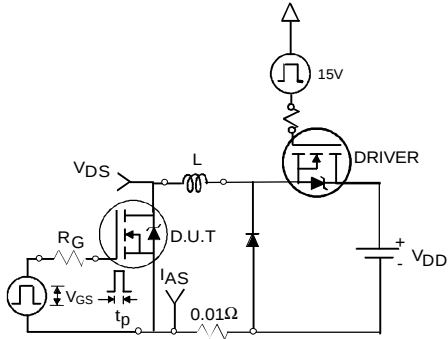

Fig 12a. Unclamped Inductive Test Circuit
- ② Starting $T_J = 25^\circ\text{C}$, $L = 0.38mH$, $R_G = 25\Omega$, $I_{AS} = 29A$, (See Figure 12a)
- ③ $I_{SD} \leq 29A$, $di/dt \leq 420A/\mu s$, $V_{DD} \leq V_{(BR)DSS}$, $T_J \leq 150^\circ\text{C}$
- ④ Pulse width $\leq 300\mu s$; duty cycle $\leq 2\%$.
- ⑤ $C_{oss \text{ eff.}}$ is a fixed capacitance that gives the same charging time as C_{oss} while V_{DS} is rising from 0 to 80% V_{DS}
- ⑥ Calculated continuous current based on maximum allowable junction temperature. Package limitation current is 30A.